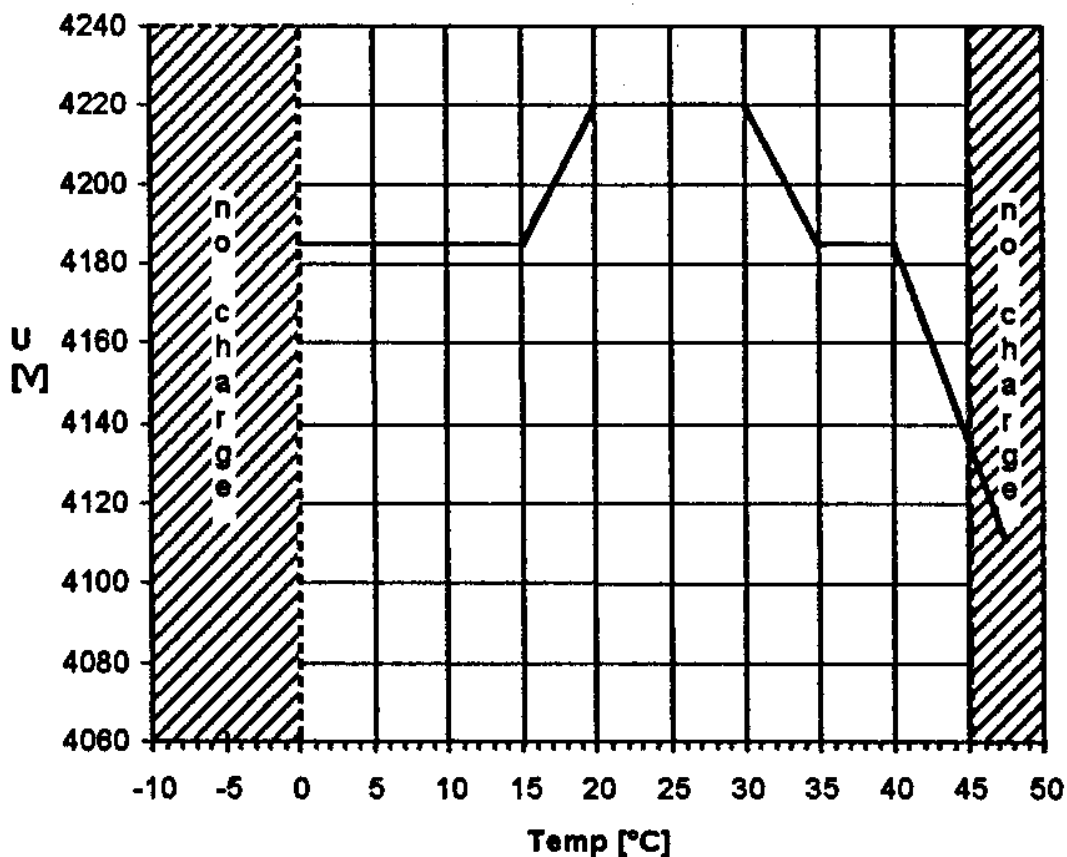

Figure 3: Final charge voltage vs temperature
- Ambient temperature range for charging 0°C...+45°C (see **Figure 3**)
The battery will be charged with a constant current until the voltage reaches 4.2V (see Figure 2). After this, the duty-cycle is reduced so as to prevent overshooting beyond 4.2V. After the pulse width has decreased to its minimum of 100ms it will be kept on a constant level. From this time the battery voltage will regulate on the open-circuit voltage. In this state of operation, the voltage will not exceed a level of 4.3V for 100ms. Charging is completed, if the pulse width does not change within 2 min. The charging process is active only within a temperature range of 0°C...+45°C (see Figure 3).